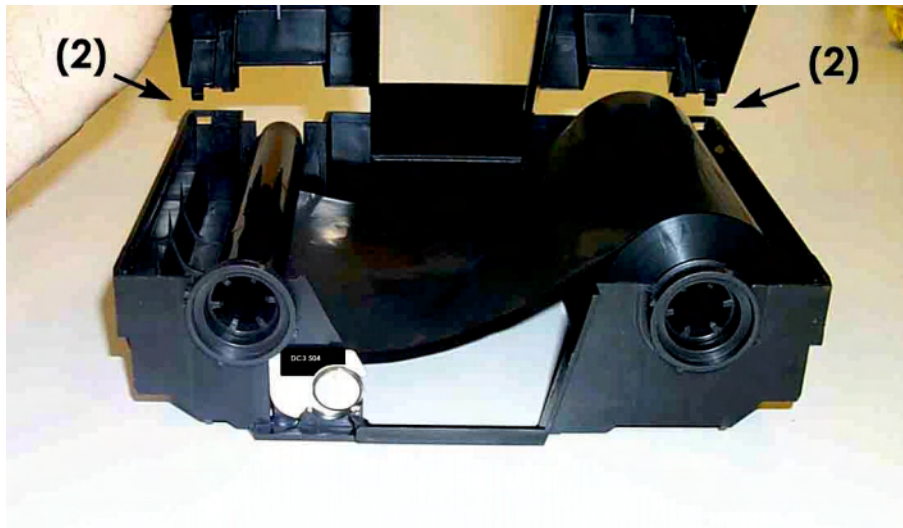

FIG 1-19
1. As shown in Figure 1-19, insert the knife blade into the knife holder.